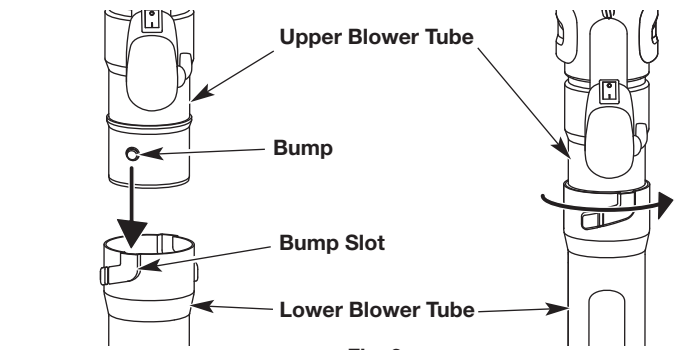

Fig. 3
1. Align the bump on the upper blower tube with the bump slot on the lower blower tube (Fig. 3).
2. Insert the upper blower tube into the lower blower tube (Fig. 3).
3. While holding the upper blower tube, twist the lower blower tube clockwise until it locks into place (Fig. 3).